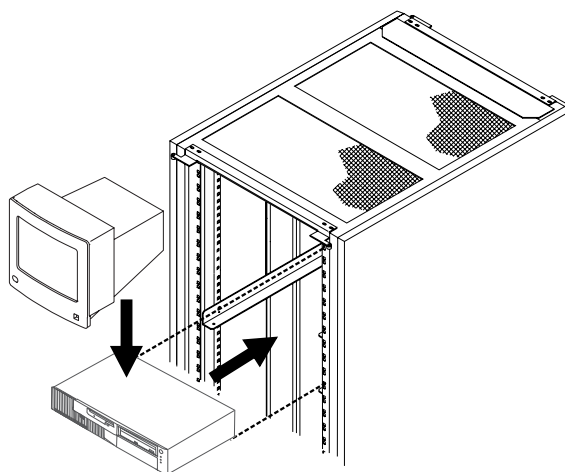

Figure 1-5. NAS and Display Installation
2. \_\_\_\_ Refer to Figure 1-5 and install the NAS on the brackets and put the display on top of the NAS frame as shown on the drawing.